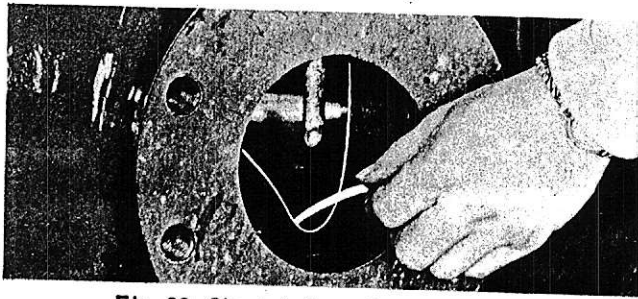

Fig. 23 Check bottom clearance using long feeler gage thru inlet or outlet ports.
- Verify bottom clearance at center and both ends of cylinder with long feeler gauges inserted thru inlet and/or discharge ports. Be sure feelers are inserted far enough to carry down over cylinder undercut and underneath rotor body. (See Fig. 23.)